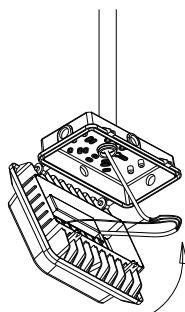

Figure 1-6
- 6.Turn the radiator up then cover the driver box,Figure 1-6